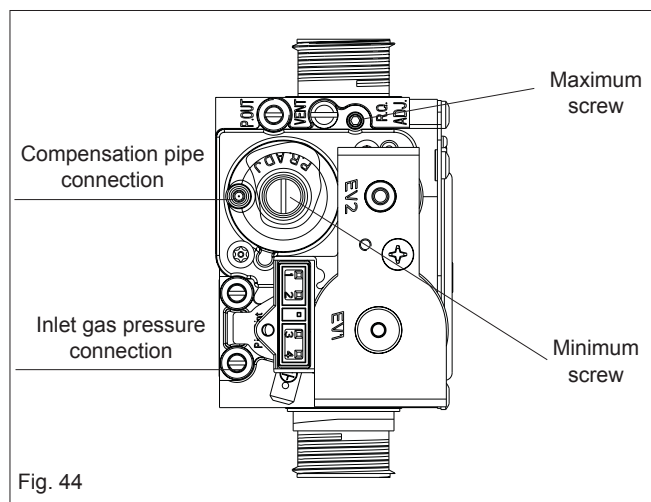

Fig. 44
- using a 2.5mm Allen key, very slowly turn the maximum adjustment screw (see fig. 44) – clockwise to decrease, counter clockwise to increase – until the correct value is displayed on the CO2 analyser (allow time for the analyser to stabilise).
- locate the minimum adjustment screw (fig. 44), using a suitable screwdriver remove the protection plug
- using a 4mm Allen key, very slowly turn the minimum adjustment screw (see fig. 44) - clockwise to increase, counter clockwise to decrease - until the correct value is displayed on the CO2 analyser (allow time for the analyser to stabilise).